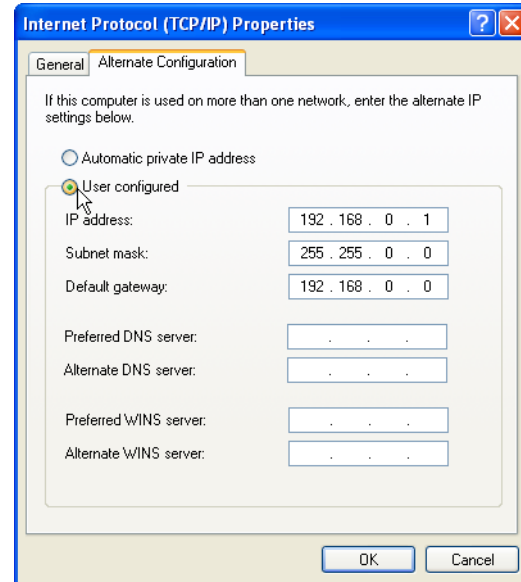

Figure 8 Internet Protocol (TCP/IP) Properties–Alternate Configuration
Step 7. Activate the **User configured** control box (see *Figure 8*).